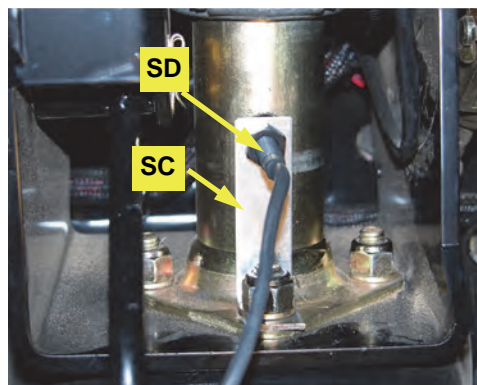

Figure 1d: Installed sensor arm
- d. Attach sensor **SD** to the bracket **SC**. Fasten the sensor arm to the steering shaft shield flange with the nut removed at step 1c (Figure 1d).
- e. Align the sensor **SD** with the magnets and adjust the sensor face to 1/8" to 1/4" from the magnets (Figure 1d).